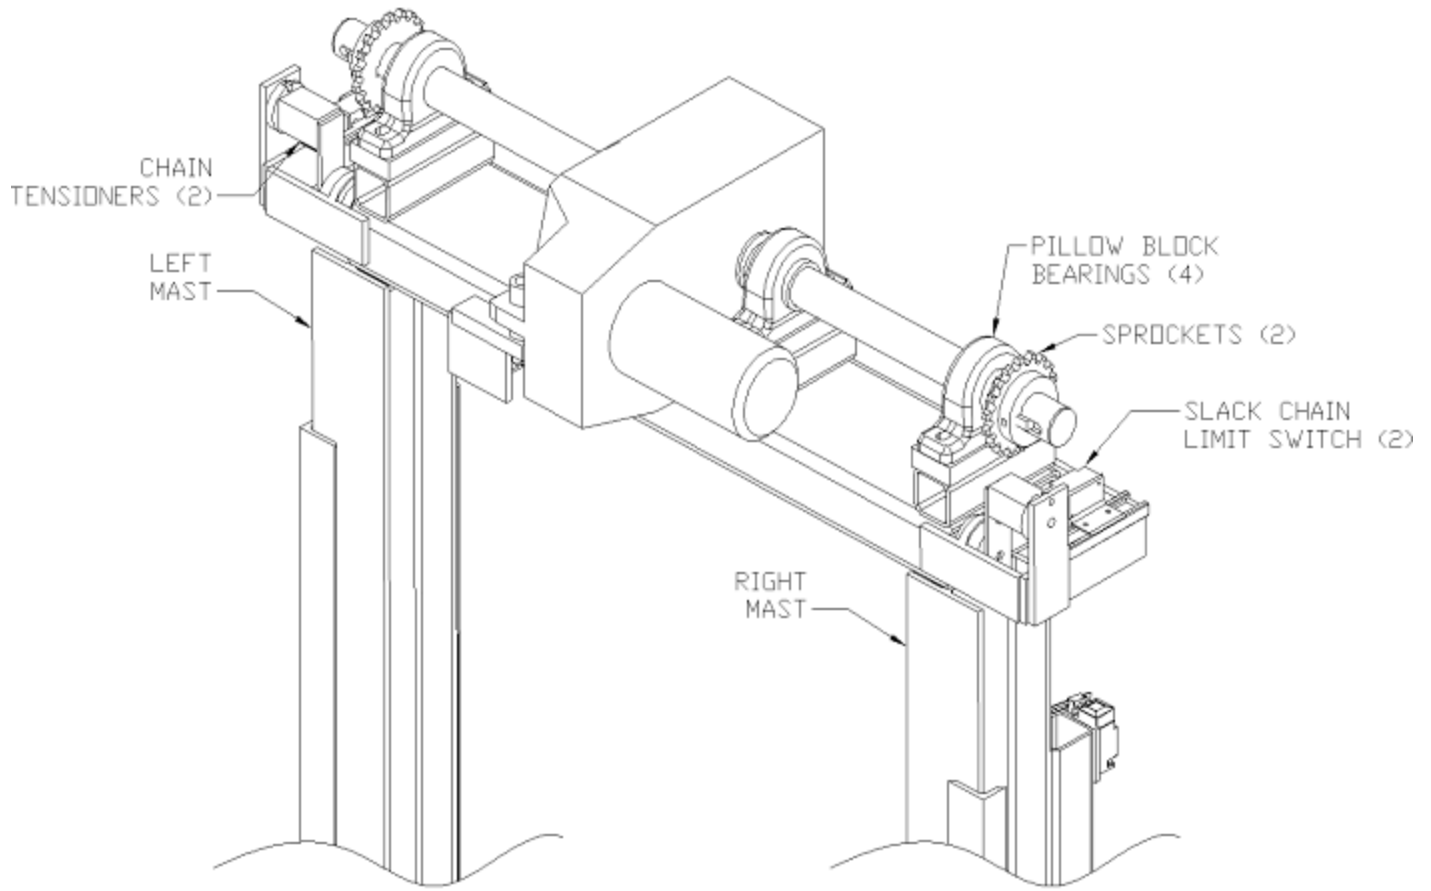
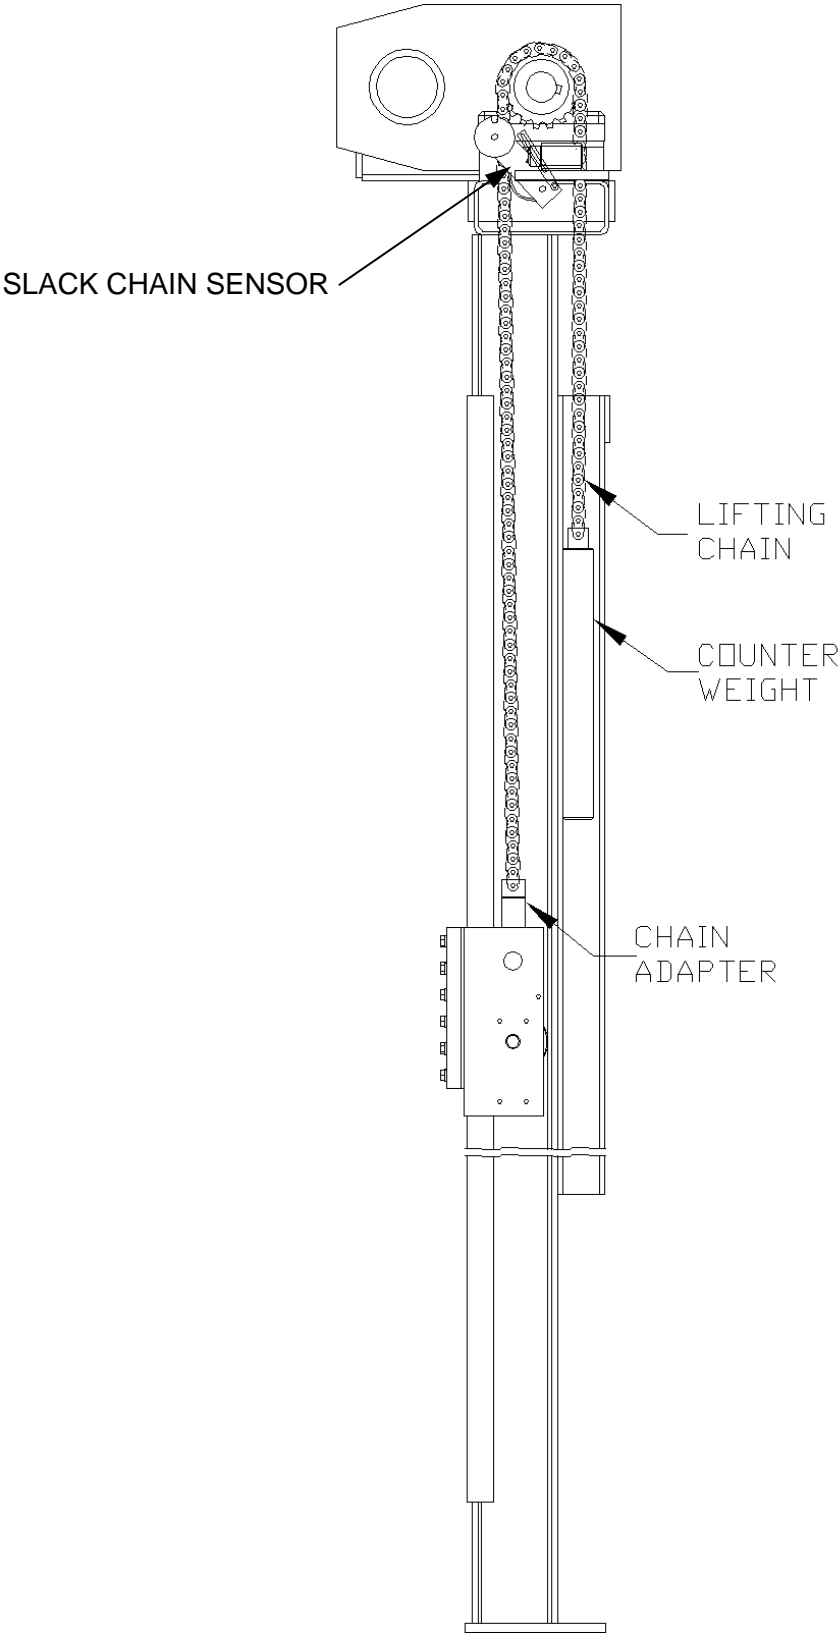

Figure 24 Drive Base Attachment
Figure 26 Lifting Chain Path
E. DRIVE BASE INSTALLATION & SECURING THE MASTS (Reference Figure 24)
1. Raise the drive base into position above the mast beams in the orientation shown in **Figure 24** and bolt into place using the hardware provided. Tighten bolts snug at this point.
G. LIFTING CHAIN INSTALLATION DETAILS (Reference Figures 26 through 28)
1. Familiarize yourself with the drive base layout on top of the lift, ensure that all components are present and oriented as shown in **Figure 24**.
2. Find the two (2) equal lengths of lifting chain, lay out on a clean surface.
3. Raise each chain up to the drive base, lower one end of the chain down the mast beam to the carriage upright and wheel guides. Lay the other end up and over the sprocket on the top of each mast as shown in **Figure 26**.
When complete, the lifting chain path should look like that shown in **Figure 26**.